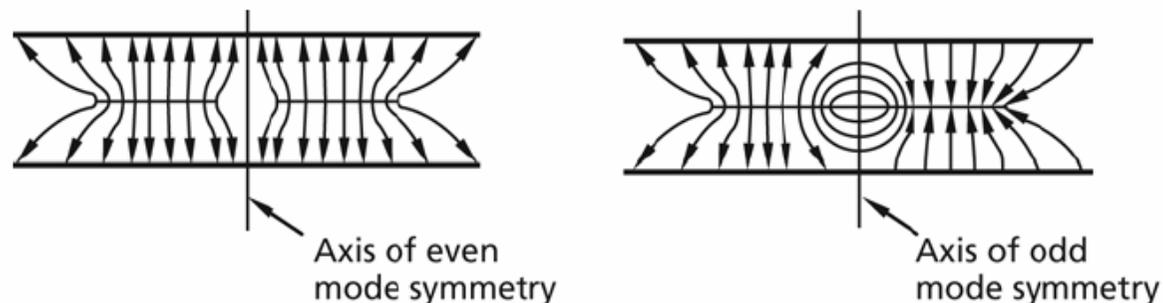

Fig. 21: Even and odd mode in coupled striplines [14]
- ◆ For striplines with an homogeneous dielectric the phase velocity is the same, and frequency independent, for all TEM-modes. A configuration of two coupled striplines (3-conductor system) may have two independent TEM-modes, an odd mode and an even mode (Fig. 21).